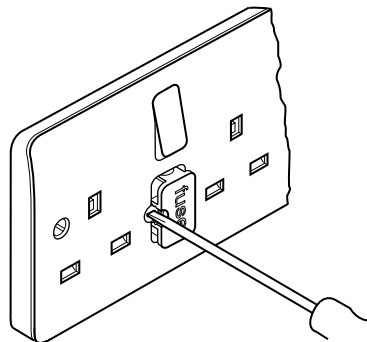

Fig. 5a
2. Unscrew fuse carrier fixing screw to partially eject fuse carrier (see Fig. 5a).